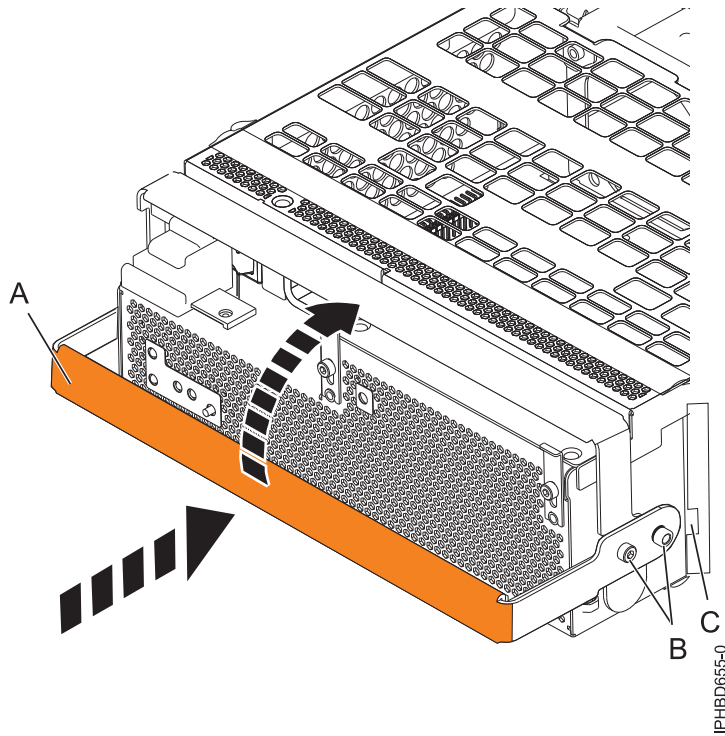

Figure 63. Replacing a power supply
6. To replace the power supply, with the locking handle (A) in the open position, push the power supply into the expansion unit as shown in Figure 63 on page 76.